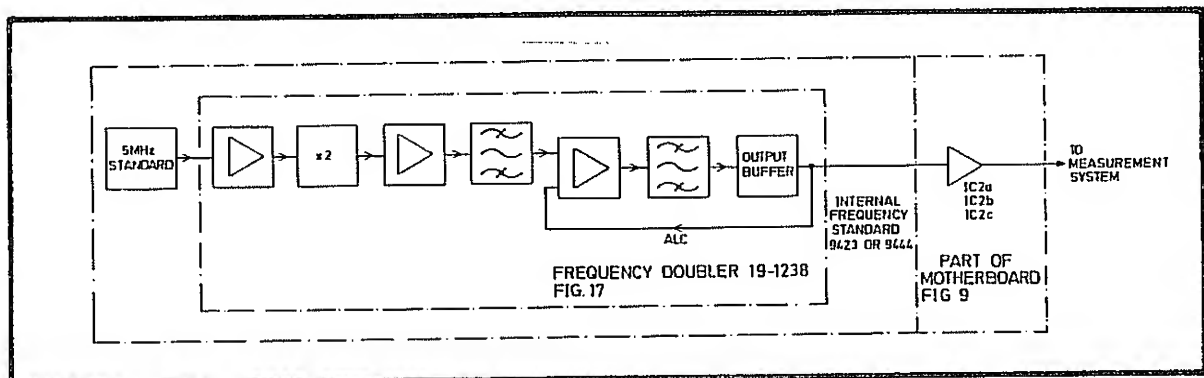

Fig 6.11 9423 and 9444 Oscillators
- 96 A block diagram of the system is given in Fig 6.11. The AC supply enters at a plug mounted on the rear panel, and passes via a fuse and RFI filter, mounted on the motherboard, to the line switch.
- 106 The internal frequency standards 19-1147 and 19-1208 are 10 MHz oscillators. Frequency standards 9423 and 9444 each comprise a 5 MHz oscillator and a frequency doubler. A block diagram of the 9423 and 9444 oscillators is shown in Fig 6.11.